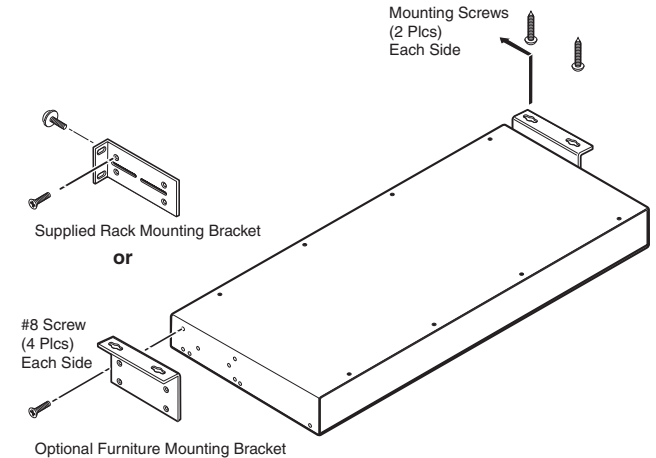

Figure 2-1 — Mounting the DA
The following Underwriters Laboratories (UL) requirements pertain to the installation of the FOX 500 DA6 into a rack (figure 2-1).
1. Attach the rack mounting brackets to the DA with the supplied eight #8 machine screws (figure 2-1).
1. Secure the two table/wall mounting brackets to the unit with the eight machine screws provided in the kit (figure 2-1).